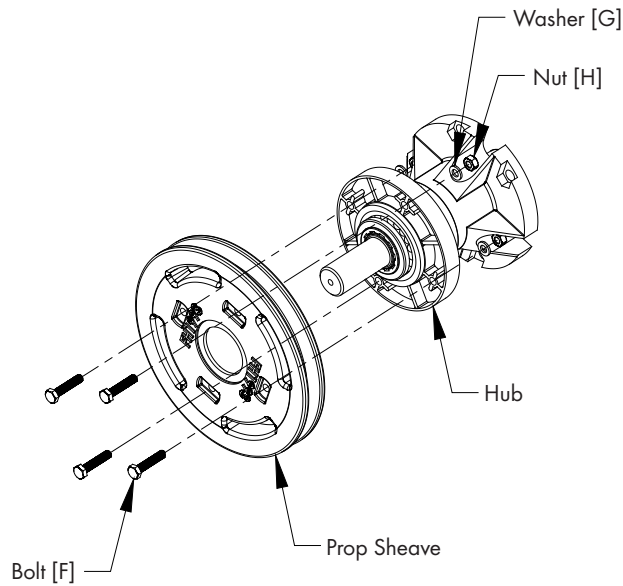
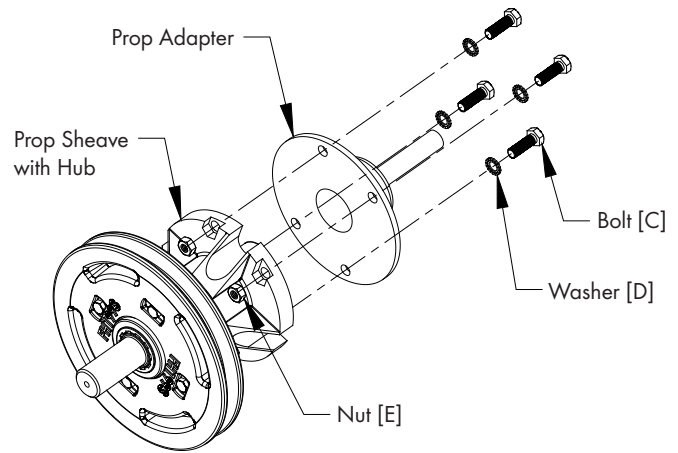

Figure 3A
Figure 3B
Attach Prop Sheave to Hub using (4) Bolt [F], Washer [G] and Nut [H]. See Figure 3A. Attach Prop Adapter to Prop Sheave/Hub Assembly using (4) Bolt [C], Washer [D] and Nut [E]. See Figure 3B.